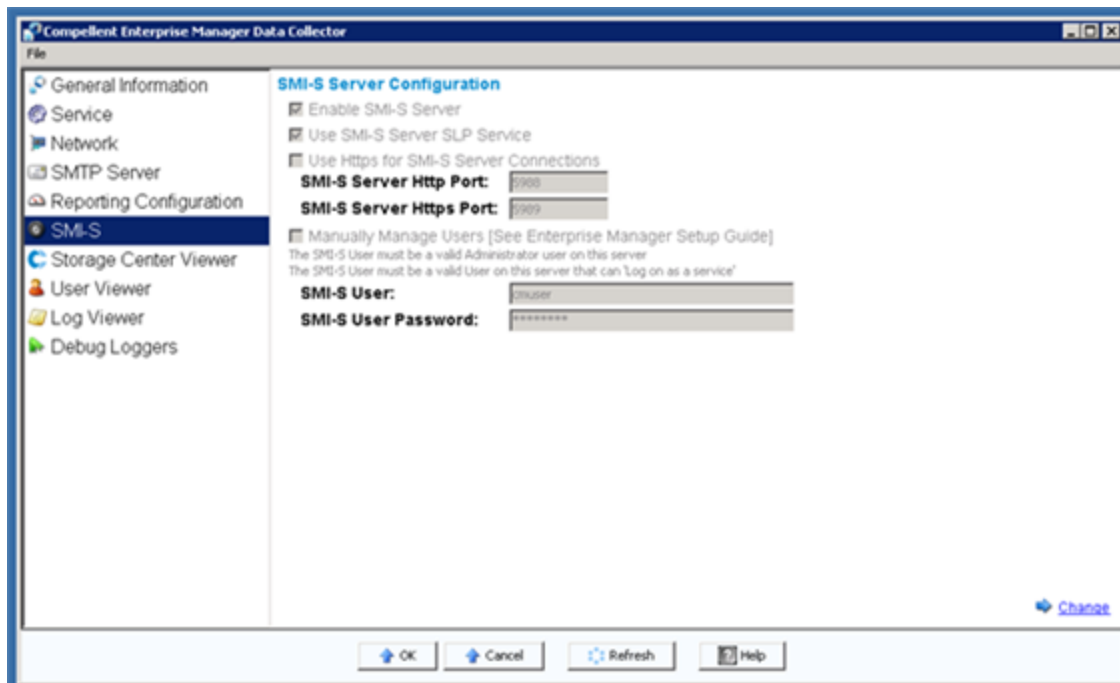

Figure 2.8: Enabling the SMI-S Server properties
14. Finally, you will be required to enable the SMI-S Server properties as shown in Figure 2.8 . Clicking the **Change** link in Figure 2.8 will enable you to make the following changes to the **SMI-S Server Configuration**: